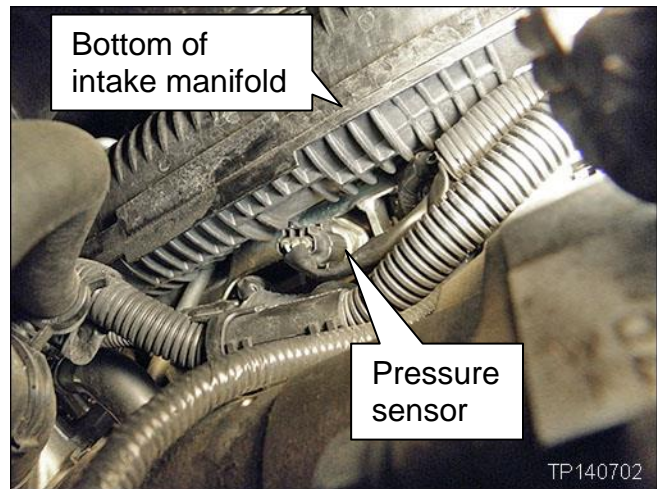

Figure 9
- As you look up toward the intake manifold you will see the fuel rail pressure sensor as shown in Figure 9 on the next page.
12. Locate the fuel rail pressure sensor shown in Figure 9.